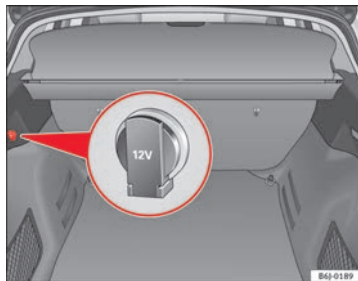

Fig. 88 Detailed view of the side trim in the luggage compartment: 12 volt socket
- Lift the power socket cover ⇒ fig. 88.